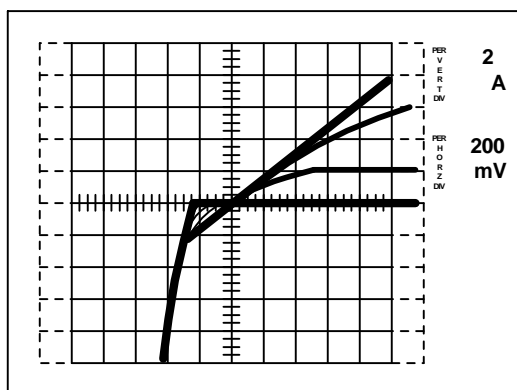
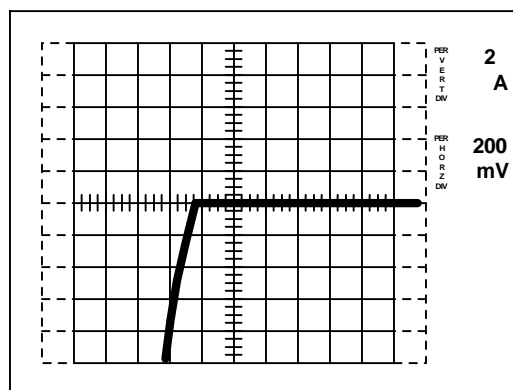

Figure 10. Operation in first and third quadrant (synchronous rectification)
Figure 11. Operation in first and third quadrant without gate drive
3. The device is connected using the LEFT/RIGHT switch. The VARIABLE COLLECTOR SUPPLY voltage is increased to obtain the required peak value of I_D . Beware of device heating. Figure 10 shows the trace obtained with the IRF630. To obtain the reverse characteristics of the diode alone, invert the step polarity. The FET is inoperative, and the display will resemble that shown in Figure 11. The step polarity should also be inverted to obtain the composite characteristics of P-channel devices.